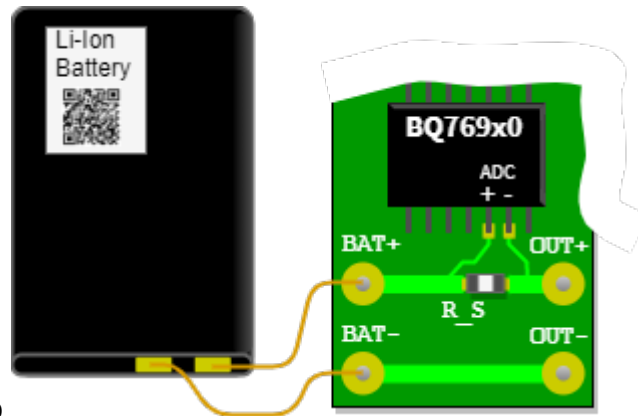

Fig. 24: Sketch of the setup
- The battery monitor BQ769x0 measures the charge and discharge currents of a lithium-ion battery by means of the voltage across a measuring resistor (shunt). In figure 24 the analog-to-digital converter (ADC) of this chip is connected to the shunt R_S via the circuit board. Through the shunt the discharge current flows from the battery connection BAT+ to OUT+ and via OUT- back to BAT-. The shunt shall be designed so that the bipolar measurement signals have a voltage level in the range of -0.20 V to $+0.20\text{ V}$. The analog-to-digital converter has a resolution of $15\text{ }\mu\text{V}$. The currents can be used to count the charge in the battery to determine the state of charge (SOC).